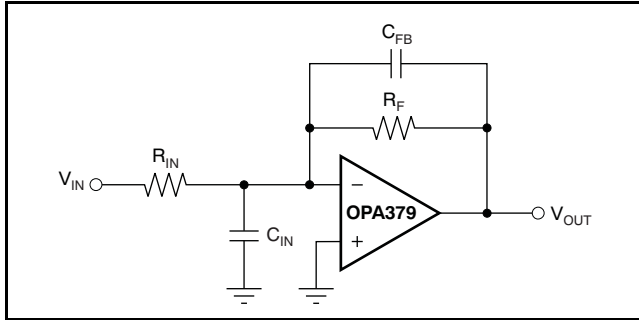

Figure 22. Improving Stability for Large  $R_F$  and  $R_{IN}$
In unity-gain inverter configuration, phase margin can be reduced by the reaction between the capacitance at the op amp input and the gain setting resistors. Best performance is achieved by using smaller valued resistors. However, when large valued resistors cannot be avoided, a small (4pF to 6pF) capacitor,  $C_{FB}$ , can be inserted in the feedback, as shown in Figure 22. This configuration significantly reduces overshoot by compensating the effect of capacitance,  $C_{IN}$ , which includes the amplifier input capacitance (3pf) and printed circuit board (PC) parasitic capacitance.